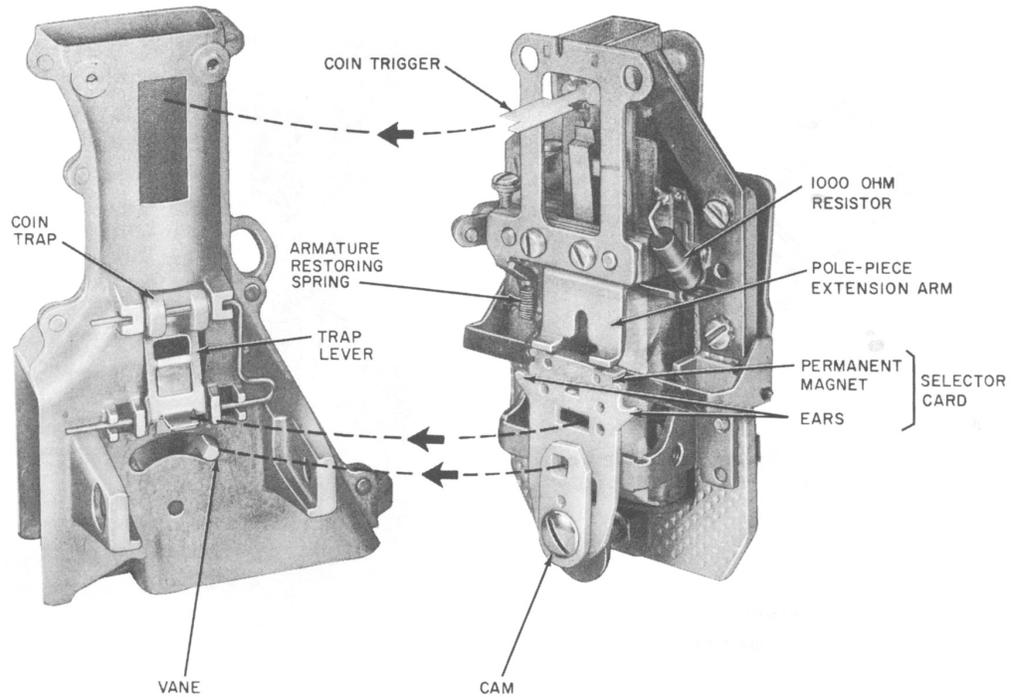

Fig. 14— Coin Hopper and Rear View of Coin Relay
- (1) Move vane to left.
- (2) With trigger tripped, place relay on hopper.
- (3) Slide relay back until trigger enters opening in hopper and trap-lever tab enters slot in selector card (Fig. 14).
- (4) Close armature manually by pressing downward on ear on left side of selector card.
- (5) Slide relay back, vane stem should enter hole in cam and mounting screw holes should line up.
- (6) Replace mounting screws.
- (7) Trigger should have some end play and armature, trap, and vane should operate and release without binding.
- (8) If trigger binds, loosen upper mounting screws.
- (9) If trigger is free with upper mounting screws loose, retighten screws evenly.
- (10) Replace relay if trigger still binds.